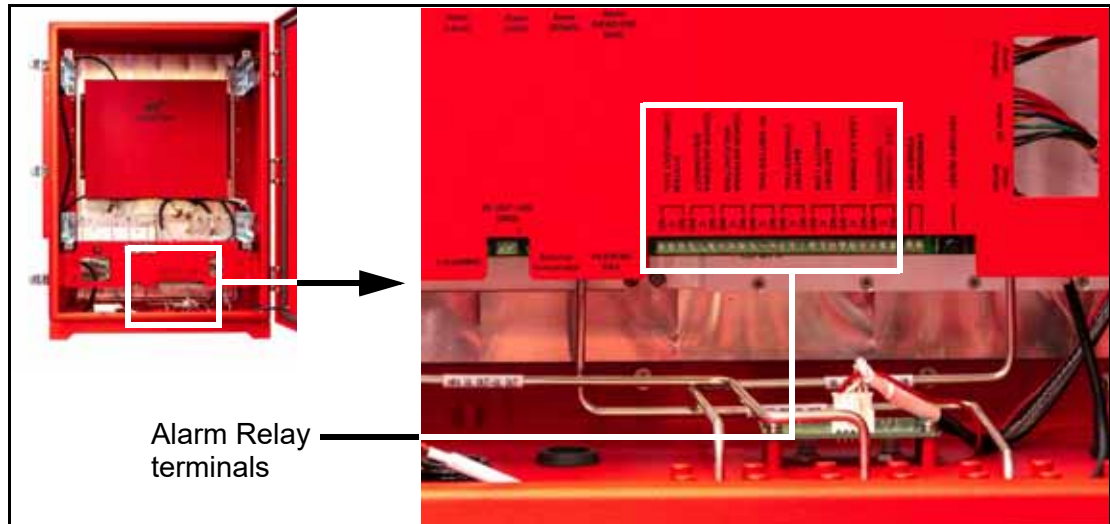

Figure 4-8 BDA Alarm Relay terminals
- Connect the serial cable wire pairs to the Alarm Relay terminals on the BDA shown in Figure 4-8. Be sure to fasten the connector screws securely. Refer to Table 4-2 below for connection information.